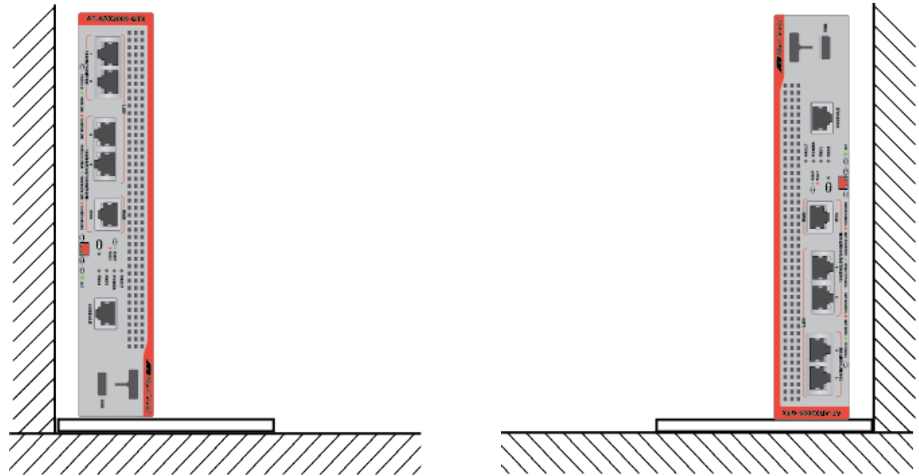

Figure 23. Router Installed Vertically on a Table Near a Wall
- The router can be installed with space between it and the wall. Refer to Figure 23.